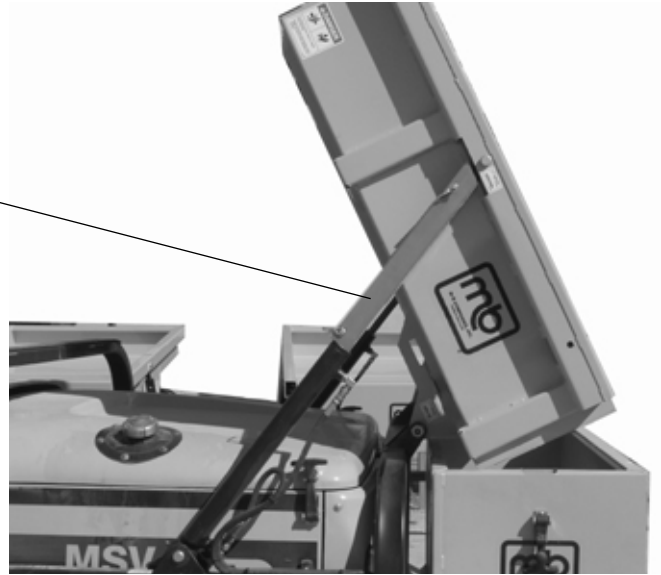

Figure 22
4. Use the two pins to hold it in place (Figure 22). The safety bar has an angled cut on one end. This end will match the angle created at the box.